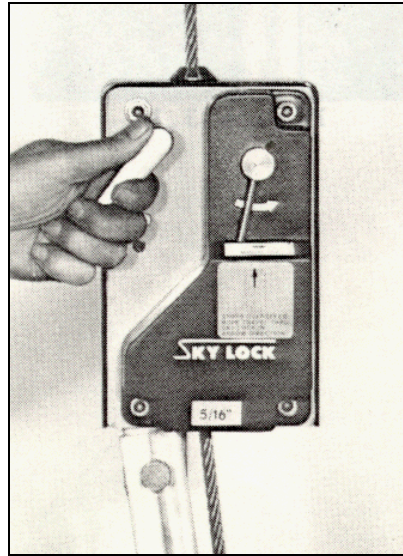

Figure 5.3
- 1) Make certain Sky Lock brake is properly set (See Figure 5.3)